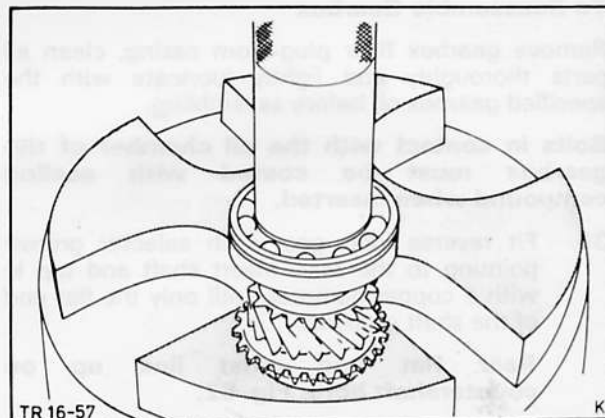

Fig. 89. Fit input shaft bearing
31. Press ball bearing onto input shaft, Fig. 89, and fit circlips to bearing and input shaft.